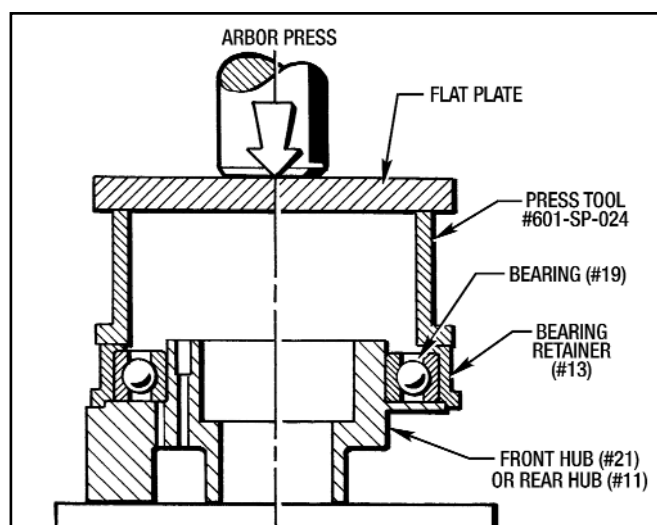

Figure 7.2 - Installing Bearing & Retainer onto Hub
4. Place the Front Hub (#21) into an arbor press and install the Bearing and Retainer onto the Hub. Use the large end of Tool #601-SP-024 as shown in *Figure 7.2*.